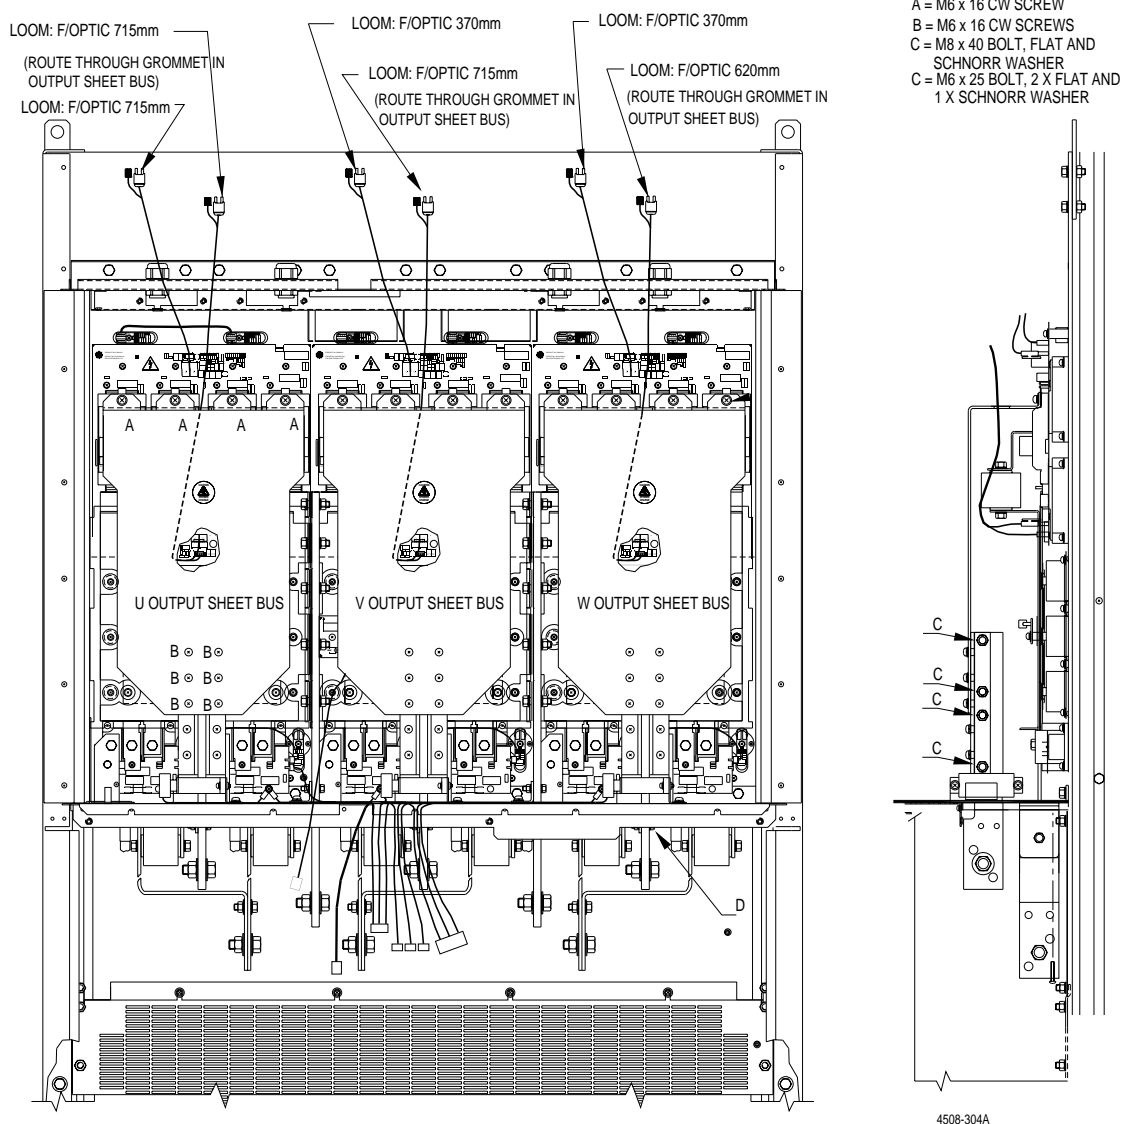

Figure 6.12: Frame 6 Output Sheet Bus Removal
- 1) The door pillar which is held by 8 off M5x16 CW screws. See figure 6.12.
- 2) The Lexan shield 2 off M5x 6 CW screws. See figure 6.12.
Refer to the lower section of figure 6.12.